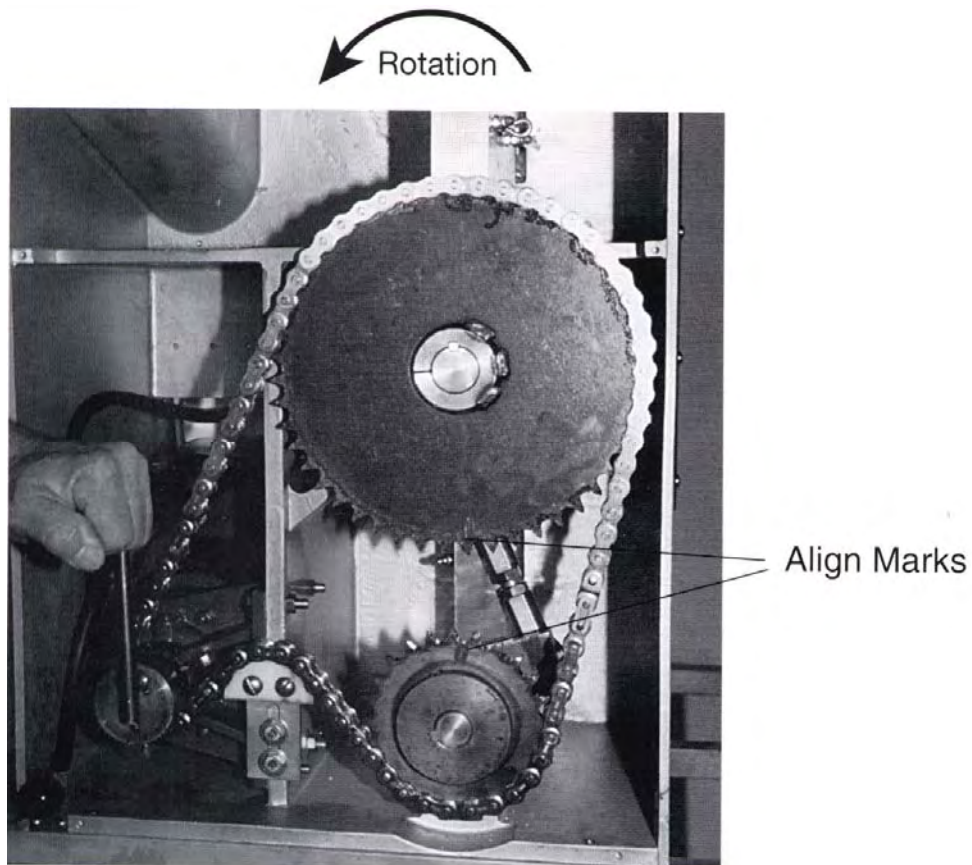

Figure 27.
17. **Before installing chain, align timing marks as shown. Refer to figure 27.**